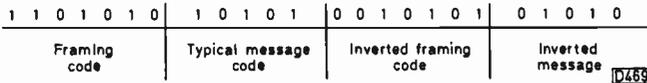

Fig. 3: Typical 24-bit command signal.
The remote, hand-held transmitter unit uses an SAA5000A integrated circuit to translate a keyboard input to a series digital code. Fig. 1 shows a typical arrangement. The SAA5000A can be operated with up to 36 keys in a 6 x 6 matrix. Pressing a key connects one of the i.c. pins numbered 4 to 9 to one of the pins numbered 10 to 15. The full 36 keys are seldom used. 32 is the average for an eight-channel colour set with teletext and 20 for the same set without teletext. The output from the i.c., at pin 16, is a repetitive 24-bit data sequence (see Fig. 3).
The transmitter handset keys shown in Fig. 1 are numbered to help identify which two SAA5000A input pins are being connected: key 126 for example links pins 12 and 6. Pressing a key causes the binary code for the pin combination to be passed to the modulator section of the chip. This converts each zero and one bit into the appropriate pulse train and assembles the 24-bit command signal sequence – see the example shown in Fig. 3.